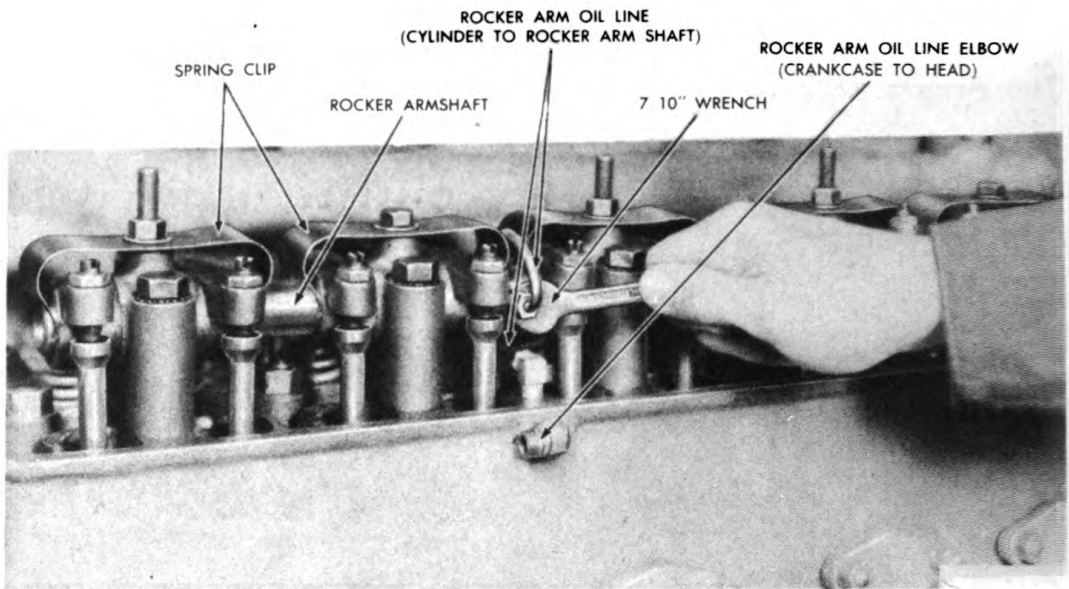

Figure 186. Installing Rocker Arm Shaft Oil Line.
25. Install the rocker arm shaft oil line. See Figure 186.